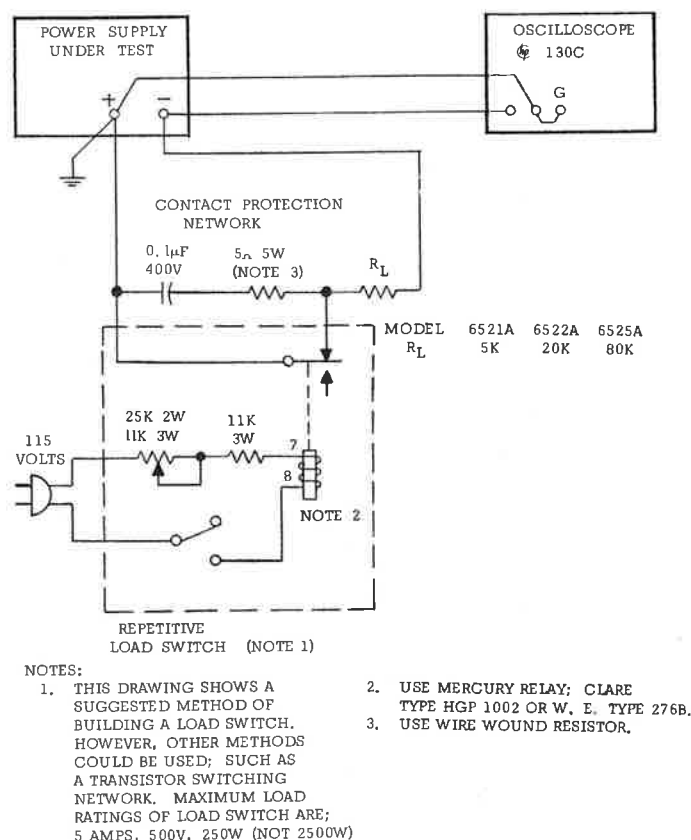

Figure 5-1. Transient Recovery Time Test Setup
a. Connect the load resistance (value shown in Figure 5-1), 100:1 voltage divider, and the differential voltmeter to the T-connector.
a. Connect test setup shown in Figure 5-1.